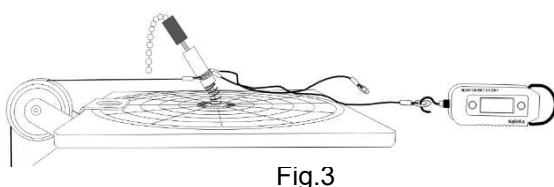
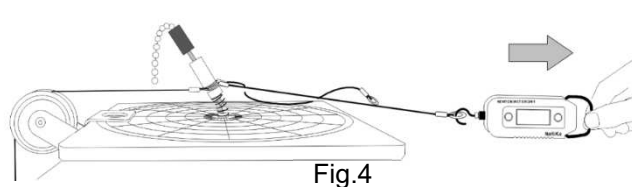
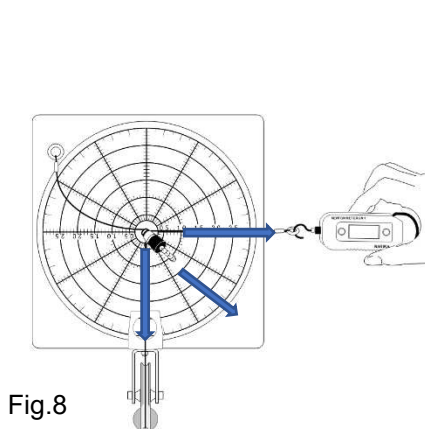

Fig.3
Fig.4
Fig.8
2. Select the “mass” measuring mode of Newton Meter and display "g" on the LCD screen. Hook the Newton Meter to the ring of one of the shorter strings (see Fig.3). Slowly pull the Newton Meter in the opposite direction to the weight until DILP is fully inserted into BRSB (see Fig.4, 5, and 6) and read the value displayed on the Newton Meter.
2. Select the “mass” measuring mode of Newton Meter and display "g" on the LCD screen. Hook the Newton Meter to the ring of a string (see Fig.3).
3. Hook the Newton Meter to the ring of one of shorter strings (see Fig.3). Pull the Newton Meter perpendicular to the force that the weight applies to DILP and adjust your pulling power until the Newton Meter displays 50 g (see Fig.8).
4. Check where the “small chain on the tip” of DILP points on the protractor (Functional Force Board) when the Newton Meter displays 50 g. It makes an angle of roughly 45 degrees to the force the weight applies to DILP (Force A) and the one the Newton Meter (NM-1) applies to DILP (Force B), which is the resultant force of Force A and B (see Fig.8).